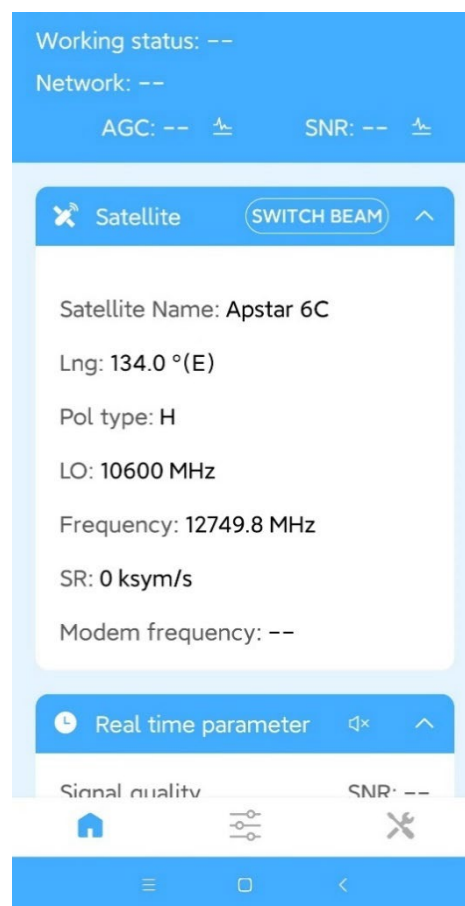

**Figure 7-7**
5. Click the "Next" button to enter the work mode selection interface, as shown in Figure 7-7.